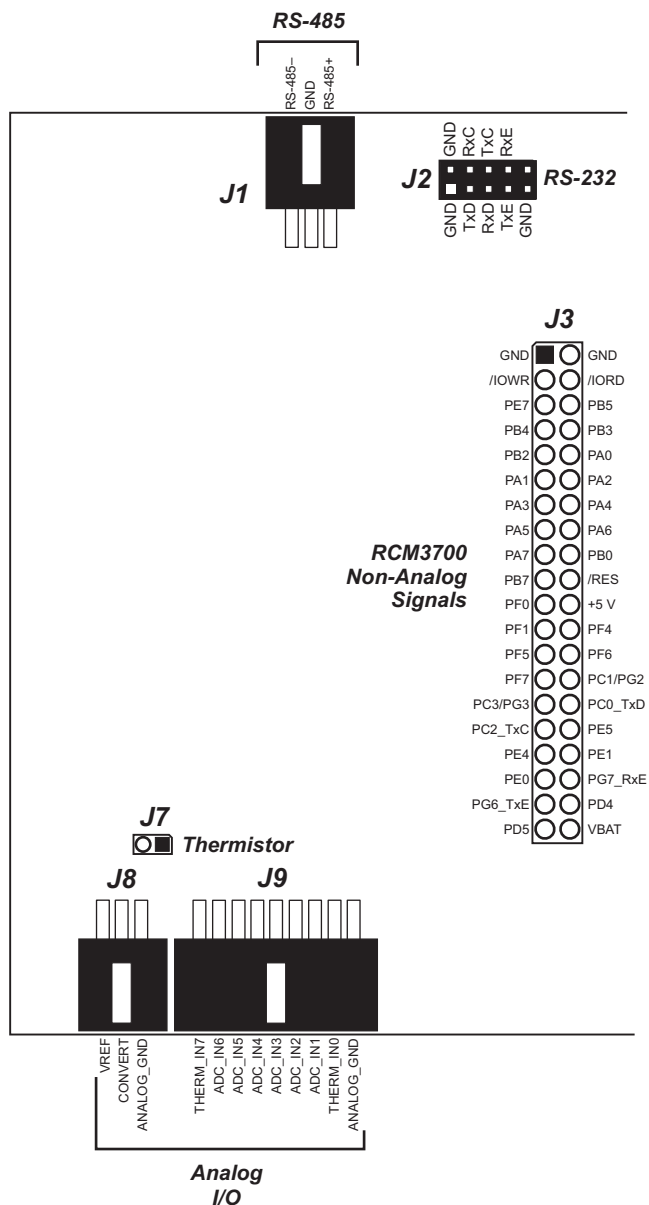

Figure B-4. RCM3700 Prototyping Board Pinout
- **Module Extension Headers**—The complete non-analog pin set of the RCM3700 module is duplicated at header J3. Developers can solder wires directly into the appropriate holes, or, for more flexible development, a 2 × 20 header strip with a 0.1" pitch can be soldered into place. See Figure B-4 for the header pinouts.
- **Analog I/O Shrouded Headers**—The complete analog pin set of the RCM3700 Prototyping Board is available on shrouded headers J8 and J9. See Figure B-4 for the header pinouts.
Figure B-4 shows the RCM3700 Prototyping Board pinouts.
Analog input THERM_IN7 on the Prototyping Board was designed specifically for use with a thermistor in conjunction with the **THERMISTOR.C** sample program, which demonstrates how to use analog input THERM_IN7 to calculate temperature for display to the Dynamic C **STDIO** window. The sample program is targeted specifically for the thermistor included with the Development Kit with R_0 @ 25°C = 3 k Ω and β 25/85 = 3965. Be sure to use the applicable R_0 and β values for your thermistor if you use another thermistor. Install the thermistor at location J7, which is shown in Figure B-4.